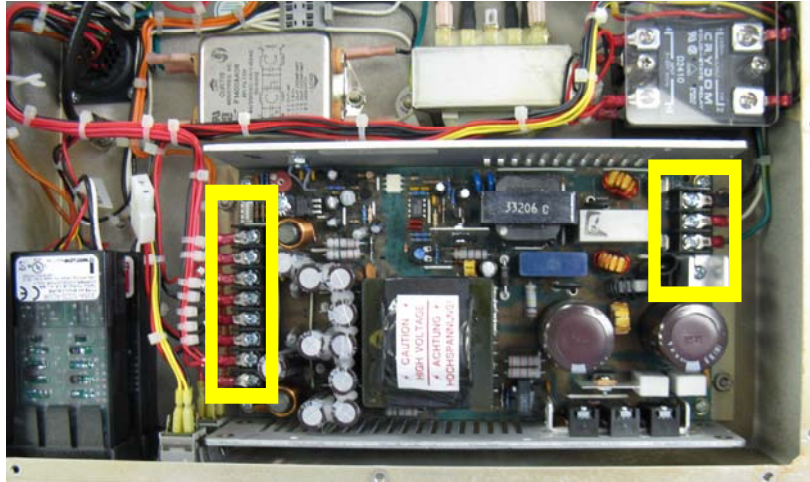

Figure 9 Front
- 8) Using a #2 Phillips screwdriver, re-connect the (8) terminals and the (3) terminals on each side of the power supply. Fig. 9 (Note: all of the (8) terminal connections are numbered. Number (1) being closest to the front on the instrument.)